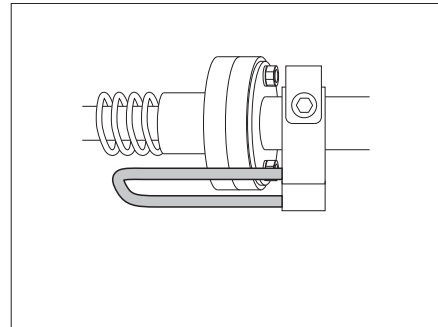

Fig. 138 Locking lever in the secured position
► Before using the bed check whether the locking lever is located in the secured position (Fig. 138).
- Set the locking lever to the secured position (Fig. 138).